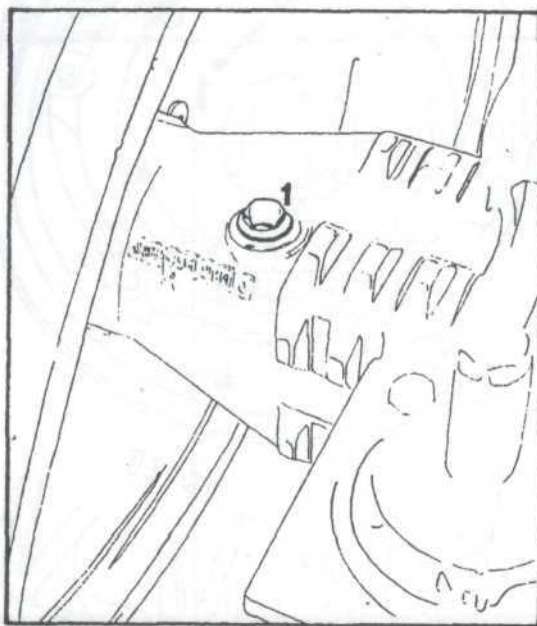

Fig. 14
- Rear axle body oil filling plug — the plug serves as oil level indicator at the same time (Fig. 14/1)